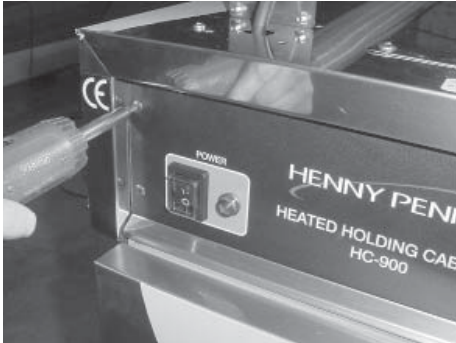

Figure 1
1. Using a Phillip’s-head screwdriver, remove the screws securing the front panel and pull panel down to access the holes in the top of the module. Figure 1.